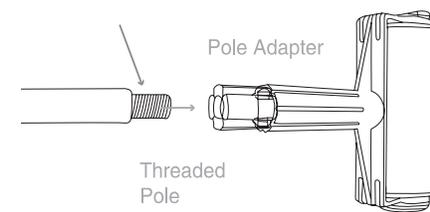

Fig. 5
2. Threaded pole to be used with Pole Adaptor (Fig. 5)